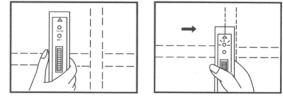

Fig.6
- 3.2.6 Move the unit horizontally across the wall. Refer to Fig.6. Ensure that the detector face marked 'STUD' is placed against the wall, otherwise the green LED will go out and the calibration procedures will need to be repeated.